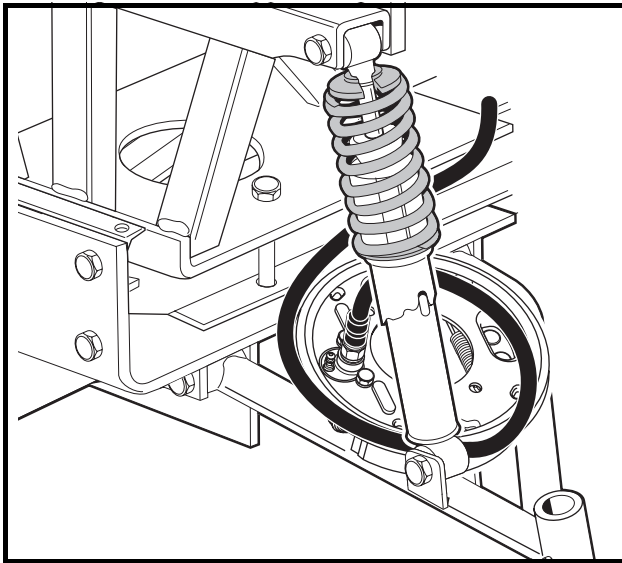

Figure 7-28 Rest Brake Cluster on A-arm
4. Rest the brake cluster on the A-arm as shown (**Figure 7-28, Page 7-15**). Ensure that there is no strain on the brake hose. **See following WARNING.**